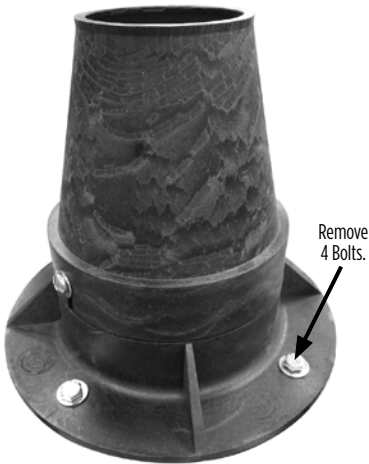

Figure 4
- b) Remove the four indicated bolts that secure the nozzle plate to the motor mount. Clean and store those components (Figure 4).
Step 5 Inspect, clean, and remove any build-up in the **Aeration Pump Head** (Figures 4 and 5).